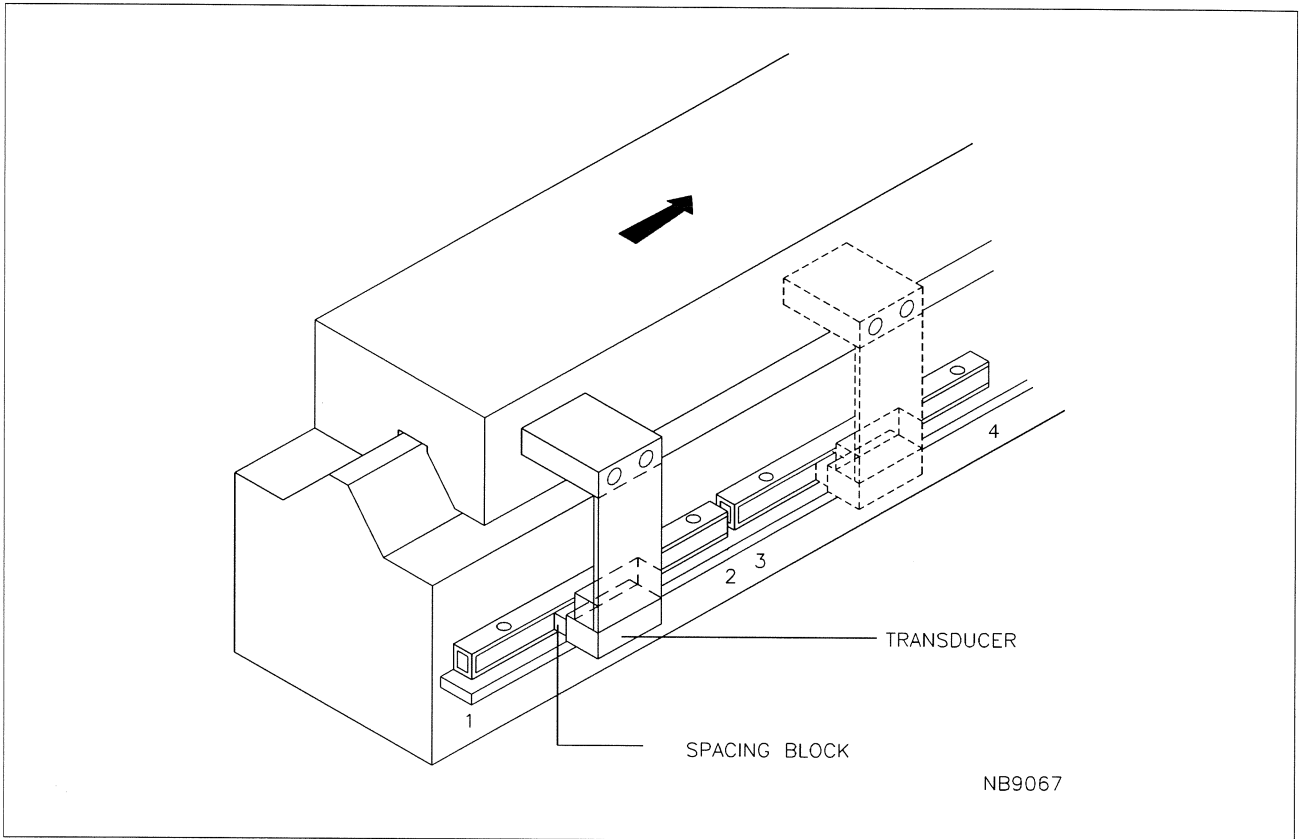

Fig. 39 Adjusting the transducer and scale
- Move the slide so that the transducer is at the left-hand end of the first scale (figure 39, point 1).
- Remove the spacing block and move the slide so that the transducer is at the right-hand end of the scale (point 2 figure 39).